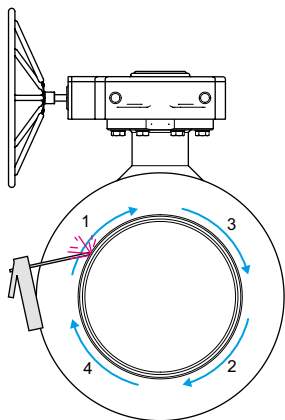

Figure 5. Welding the seams.
- Then the seams between the bridges are welded as shown in Figures 5 and 6. Welding order 1-2-3-4.